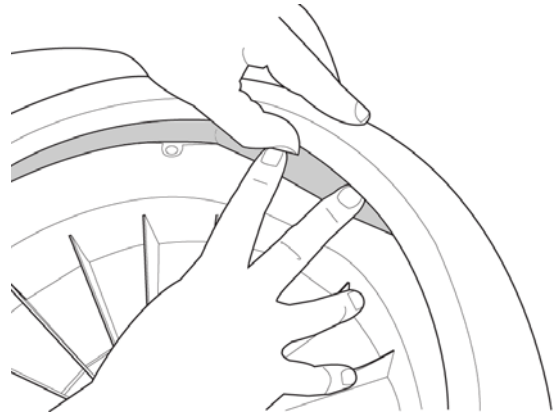

Figure 4-14: Feed Tube into Tire Around Rim
4. Align valve stem with opening in rim and feed tube into tire around rim (Figure 4-14). Make sure there are no kinks, bends, or folds in tube. Push valve stem through opening in rim.